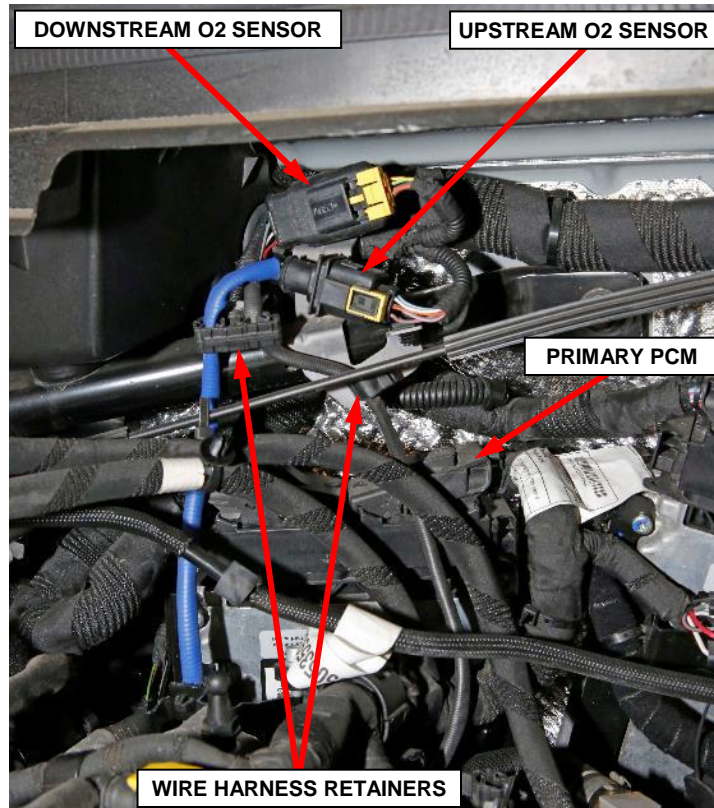

Figure 17 – Oxygen (O2) Sensors
39. Disconnect the electrical connections for the right side upstream and downstream Oxygen (O2) sensors (Figure 17).
40. Release the O2 sensor wire harnesses from the retainers then position the O2 sensor wire harnesses out of the way of the primary Powertrain Control Module (PCM) (Figure 17).
12. Connect the electrical connections for the right side upstream and downstream Oxygen (O₂) sensors then secure the O₂ sensor wire harnesses to the retainers (Figure 17).